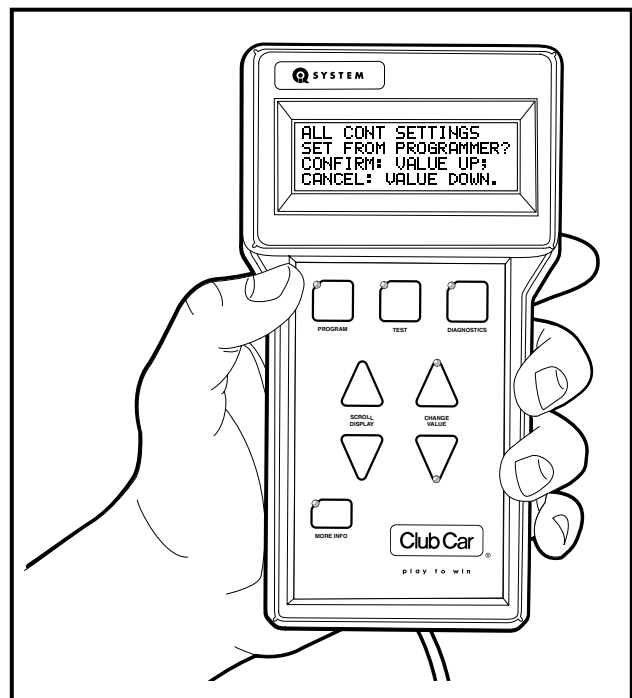

Figure 18 Controller Settings Transfer from IQDM
7. After pressing the MORE INFO button, a prompt will appear to confirm the operation (**Figure 18**). To abort the operation, press the CHANGE VALUE down button; otherwise, proceed to the next step.